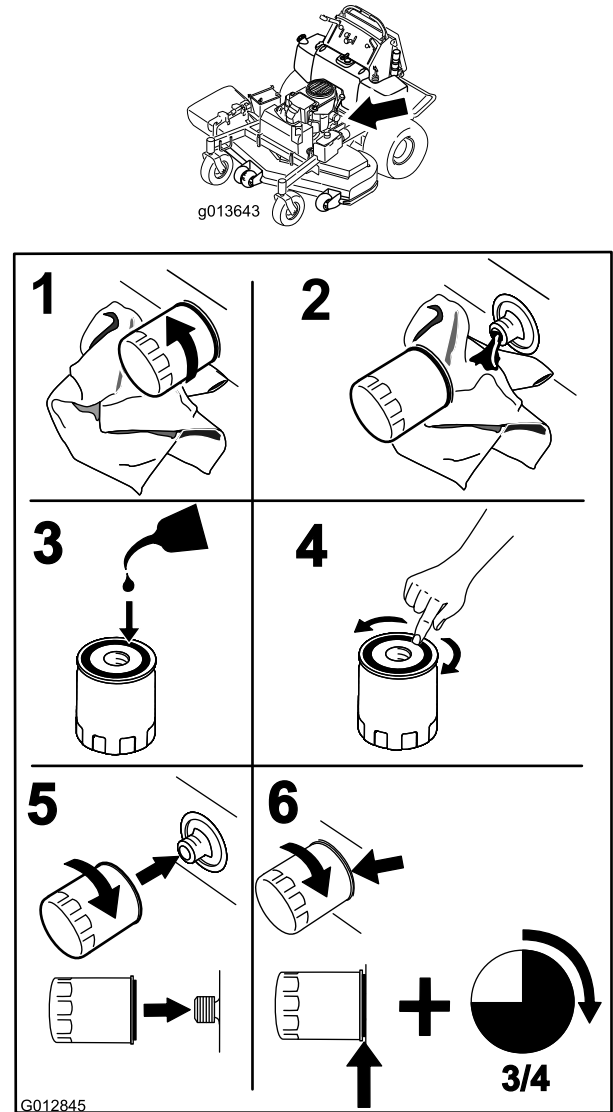

Figure 46
3. Change the engine oil filter (Figure 46).